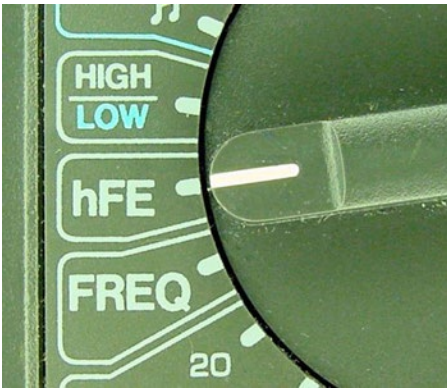

Figure 16-2. Dialing the transistor gain test (h_{FE}) on a multimeter
1. Turn the multimeter dial to h_{FE} (see Figure 16-2) or the appropriate function for your meter.